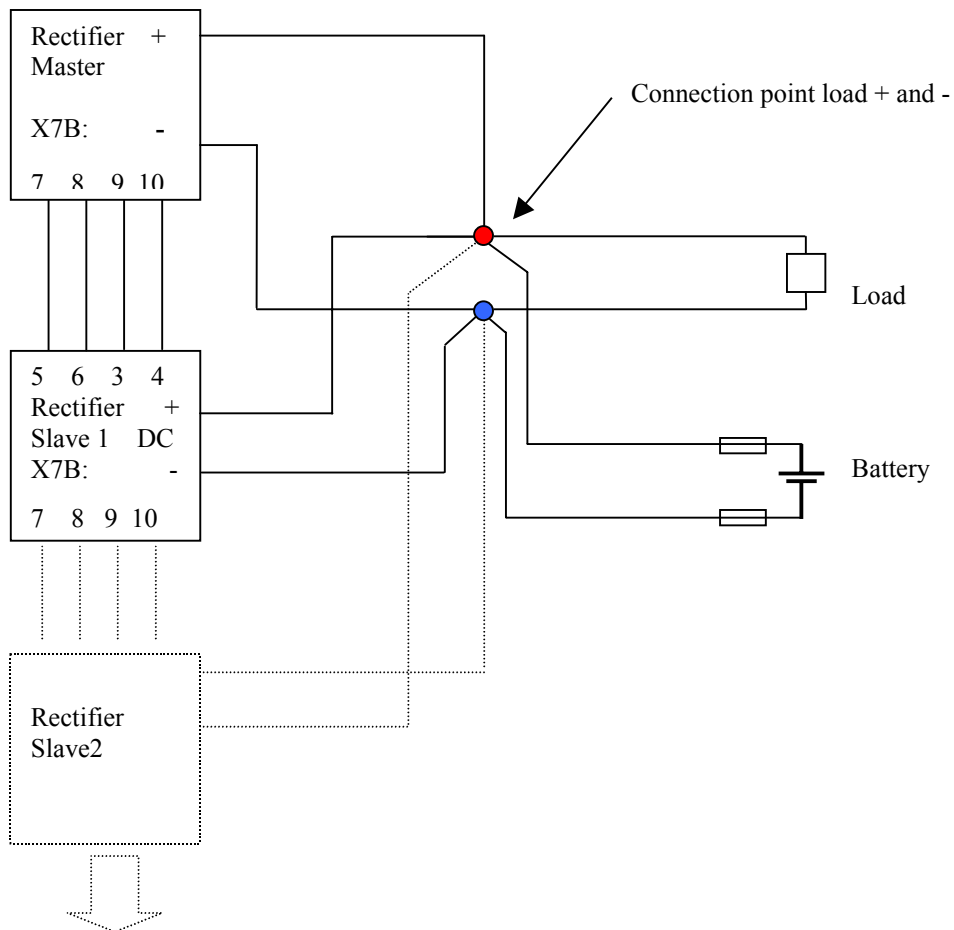

Figure 4. Parallel operation connection.
The rectifiers can be connected in parallel with passive load current sharing with or without options in a master-slave configuration. To get a good current sharing the rectifiers must be connected as intended in figure 4. Observe the signals for boost and battery test operating.
7. Boost or battery circuit test shall be executed on the master. Otherwise the slaves don't switch to boost or battery circuit test mode. If you set a slave 1 in figure 4 to boost or battery circuit test mode, only the slave 2 and the one's after this will be changed to this mode.